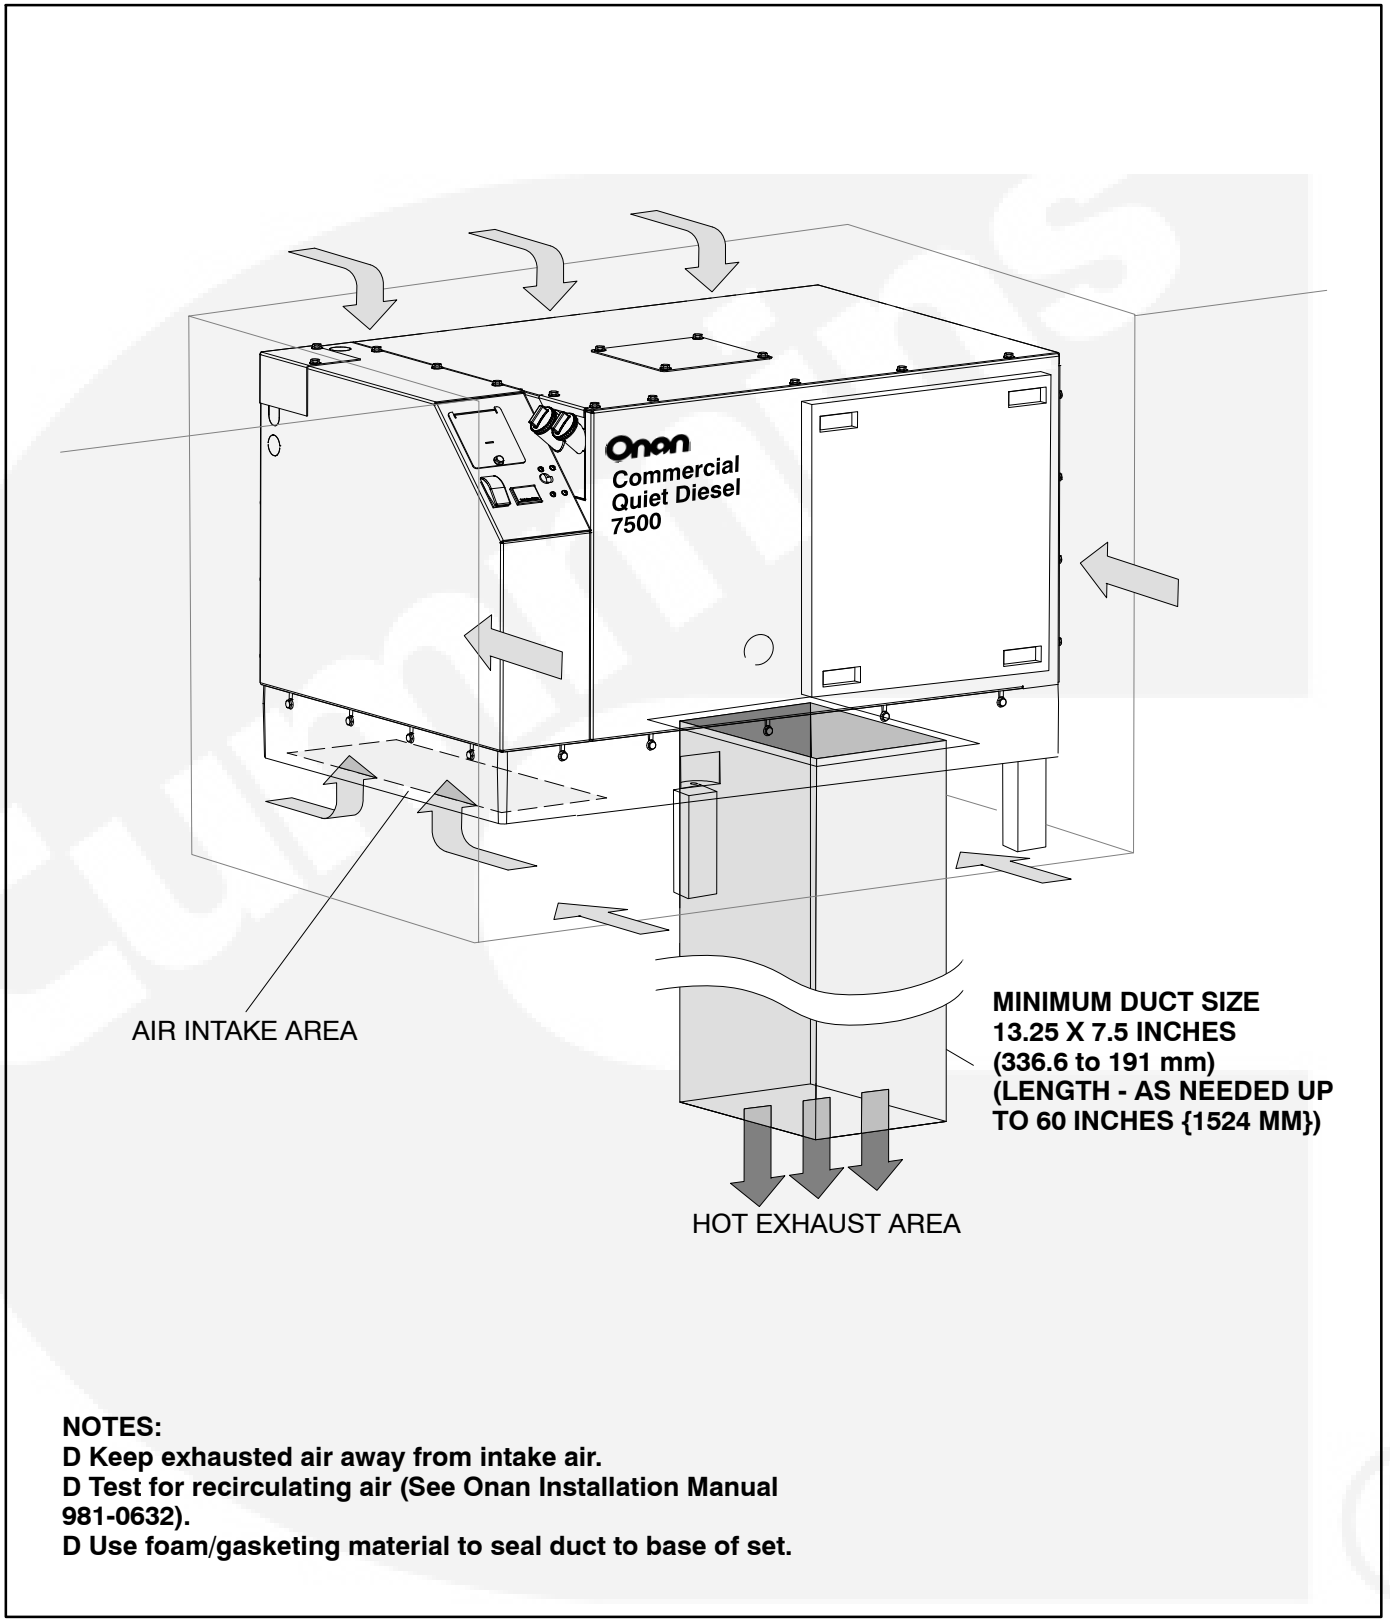

FIGURE 5. INTAKE AIR - EXHAUST AIR DUCTING (COMMERCIAL MODELS ONLY)
4. Ducting must be fabricated to exhaust hot air from the genset. Foam or gasket material must be used between the duct and the base of the set to prevent recirculating of exhausted hot air. See Figures 5 and 6.